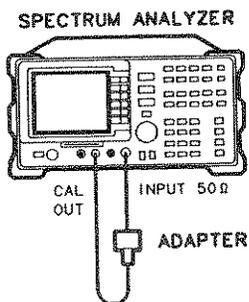

Figure 3-24. Fast Sweep Time Amplitude Test Setup
1. Connect the equipment as shown in Figure 3-24. *Option 001*: Omit the adapter and use the 75 Ω cable.